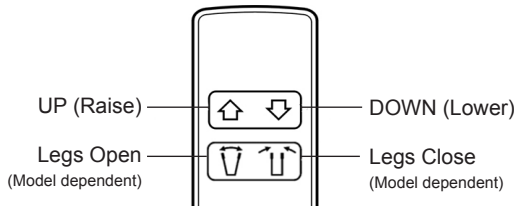

Fig. 9
- Push the UP and DOWN buttons on the hand control and confirm the boom will raise and lower accordingly (Fig. 9).